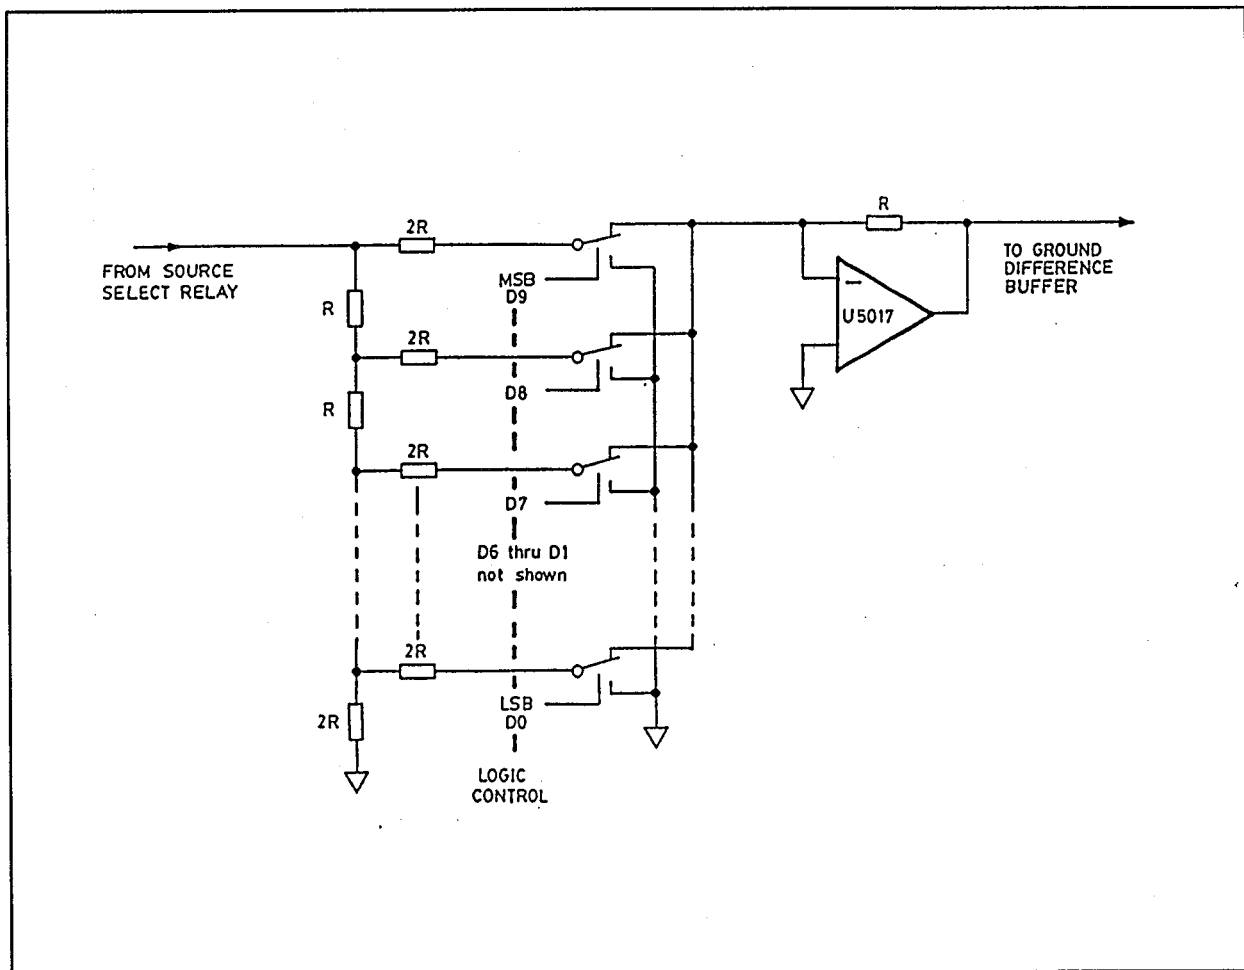

Fig. 5.5.1 10-BIT DAC, fine level control
5.5.2 10 BIT DAC FINE LEVEL CONTROL (Referring to Figure 5-5.1 and Schematic 5)